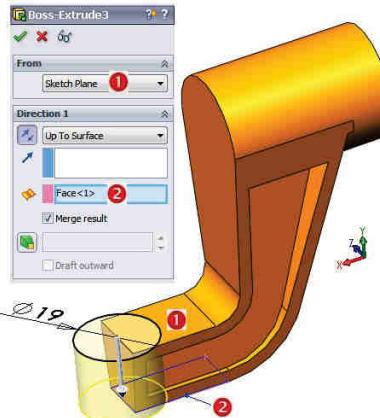

Fig. 2.7
**9 Trasare cerc  $\phi 19$ :** Comanda Sketch – Fig. 2.7 – plan ①.
**10 Extrudare cerc  $\phi 19$ :** comanda Extruded Boss/Base – Fig. 2.7 – Up to Surface /  $\Delta$  selecție față ②/  $\checkmark$ .
**9 Sketching of the  $\phi 19$  circle:** The Sketch command – Fig. 2.7 – plane ①.
**10 Extrusion of the  $\phi 19$  circle:** the Extruded Boss/Base command - Fig. 2.7 – Up to Surface /  $\Delta$  select face ②/  $\checkmark$ .